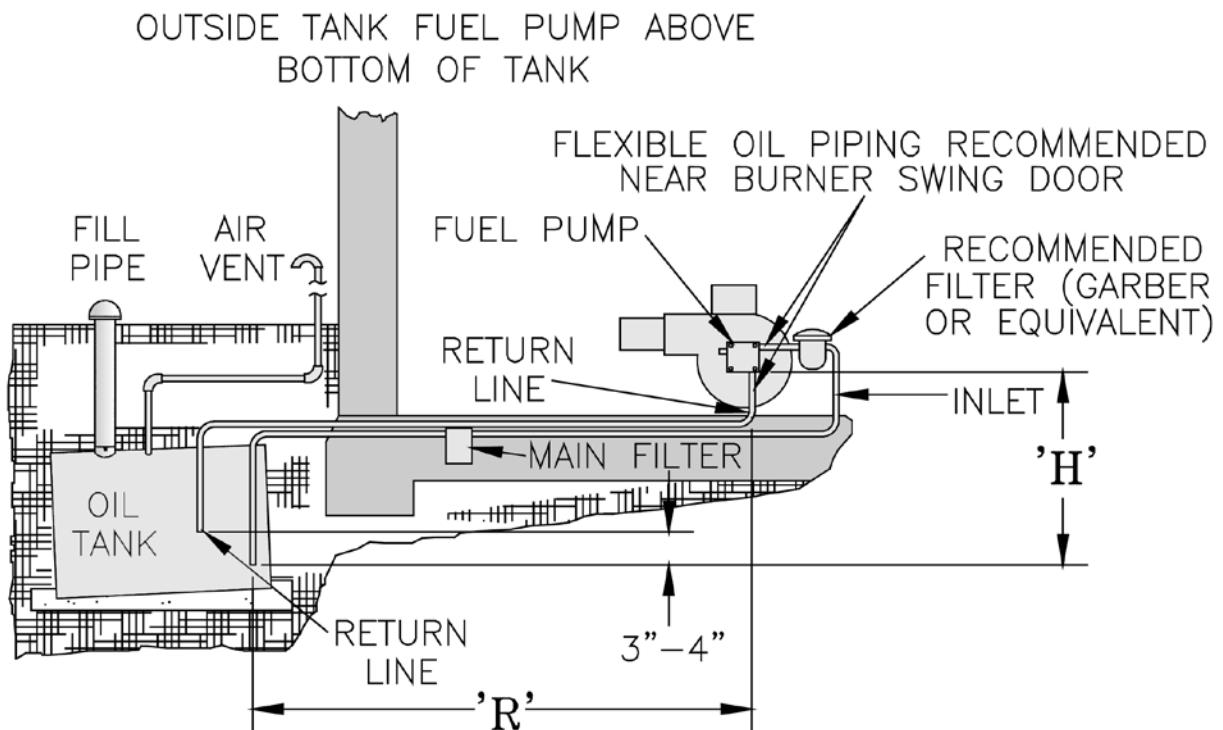

Figure 18: Two-Pipe Installation
1. For two-piped systems, where more lift is required, the two-stage fuel unit is recommended. Table 2 (single-stage) and Table 3 (two-stage) show allowable lift and lengths of 3/8 inch and 1/2 inch OD tubing for both suction and return lines. Refer to Figure 18.